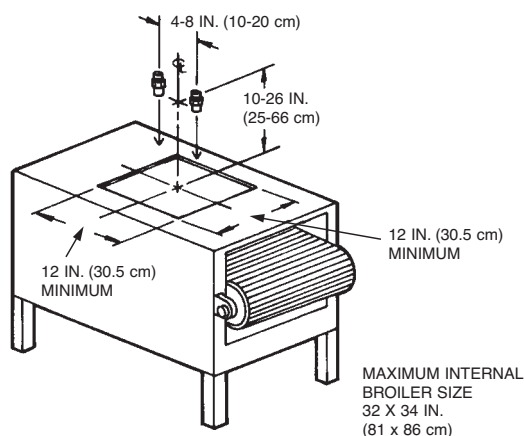

FIGURE 55
- When overhead protection is used, the nozzles must be centered above the exhaust opening within 4 to 8 in. (10 to 20 cm) of each other and they must be located 10 to 26 in. (25 to 66 cm) above the top of the broiler surface. See Figure 55.